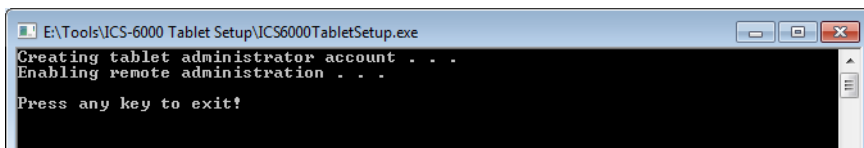

Figure 3-47. ICS-6000 Tablet Setup Utility Command Window
- The utility begins running automatically. When installation is complete (within a few seconds, press any key to close the command window (see Figure 3-47).